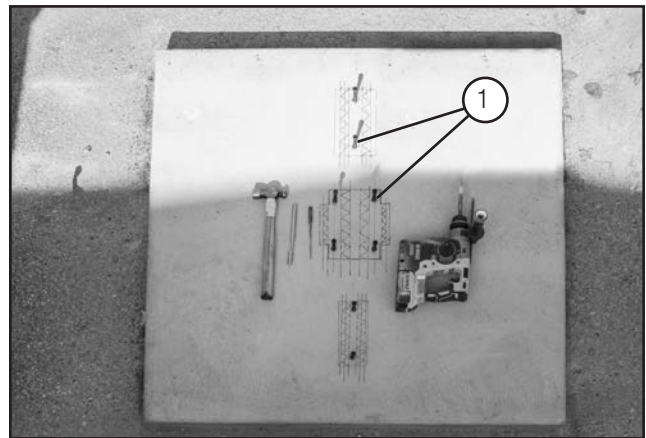

Figure 7-2 1. Mounting Holes
6. Drill pilot holes for concrete anchors. Conductix-Wampfler recommends steel drop-in type anchors. See **Figure 7-2**.
7. Be sure to drill depth of anchor only and hammer with set tool when anchor is flush with top of concrete. Follow concrete anchor manufacturer's instructions. See **Figure 7-2**.
8. Set steel drop-in anchors (requires a set tool). See **Figure 7-2**.